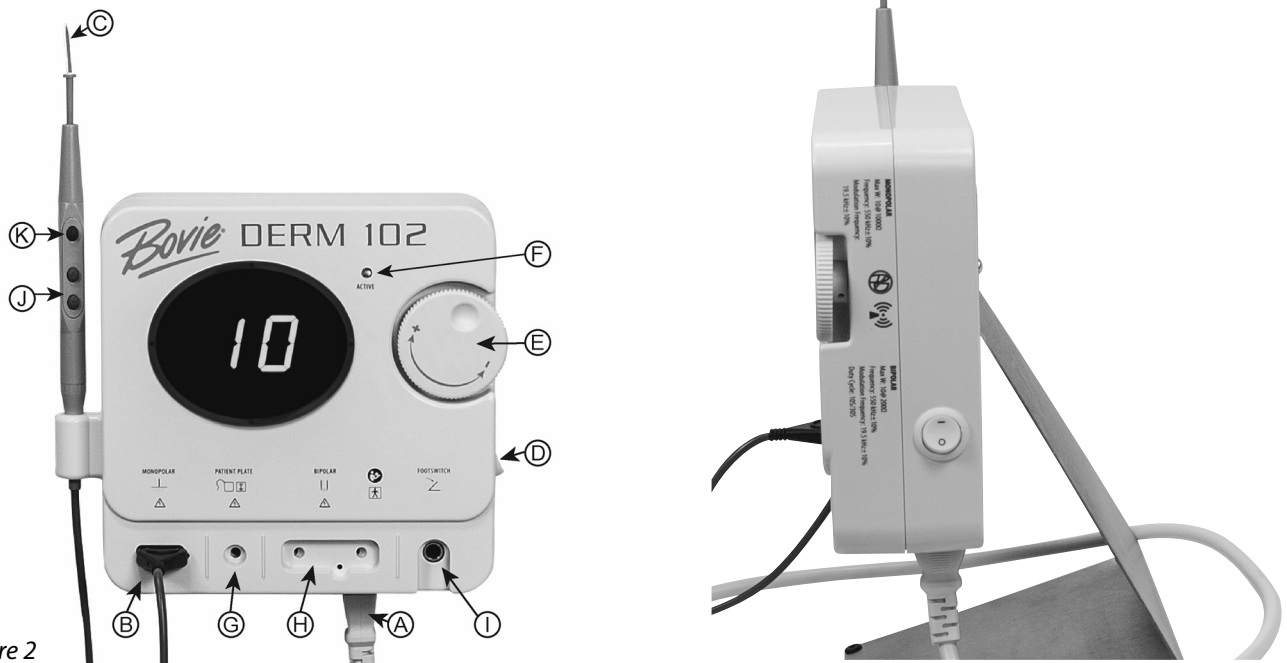

Figure 2
2. Plug the female end of the power cord into the base of the unit (see figures 2 and 3, letter A).
4. The monopolar output for the handpiece is on the lower left front of the unit (see figures 2 and 3, letter B). The handpiece plug is designed to fit in only one direction. Plug the connector from the handpiece into the
receptacle on the bottom of the unit (see figures 2 and 3, letter B). The three button handpiece is designed to give the doctor complete fingertip control of the power output settings.
5. Slide the standard electrode into the handpiece until it is firmly seated (see figures 2 and 3, letter C). The handpiece will accept most standard  $\frac{3}{32}$ " electrodes.
7. Turn the unit power on utilizing the switch on the right side panel of the unit (see figures 2 and 3, letter D).
8. Set the power output either by using the dial on the front of the unit (see figures 2 and 3, letter E) or on Bovie® DERM 101/102 unit only by the up and down buttons on the handpiece (see figures 2 and 3, letter J). When power level adjustment is being made by the handpiece an audible tone will sound to indicate that the power level has been changed. Depressing and holding the up or down buttons will cause the power settings to change more rapidly for quick adjustment of the output settings. Power output is displayed in “.1” watt increments from 0.1 to 10 watts.
9. To activate the unit, remove the handpiece from the holder. Place the handpiece in the desired position and depress the activation button (see figures 2 and 3, letter K). When the unit is activated, an audible tone is sounded and the blue active light will illuminate (see figures 2 and 3, letter F).
10. To use the optional grounding plate with cord (A802EU), insert the plug of the cord into the grounding plate output (see figures 2 and 3, letter G) and connect the other end into the grounding plate. The plate should be placed underneath the patient at a point where the entire plate is covered by bare skin. The use of conductive gel is recommended.
11. To use the optional bipolar cord (A827V), insert the plugs into the bipolar outputs (see figures 2 and 3, letter H). The cord is then plugged into the forceps. A sliding gate behind the monopolar and bipolar outputs prevents the user from using both simultaneously.
12. The optional footswitch (A803) is plugged into the footswitch output and placed on the floor (see figures 2 and 3, letter I). The footswitch can be used with monopolar procedures and must be used with bipolar procedures.